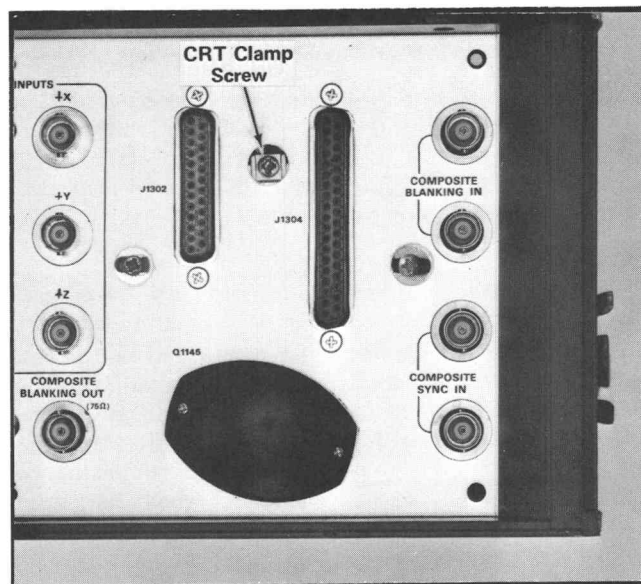

Fig. 4-4. Location of CRT clamp and positioning screws.
6. Loosen the clamp around the neck of the CRT by loosening the phillips head screw (see Fig. 4-4). Do not completely remove the screw.
Tighten the CRT base clamp screw (see Fig. 4-4).
Loosen the two side screws on the clamp assembly (Fig. 4-4). Align the CRT faceplate squarely with the front of the instrument. Tighten the two side screws.
After electrical connections have been made, ensure that the collimation bands are making contact by checking the performance of the instrument. It may be necessary to re-align the CRT with the graticule. Loosen the two side screws on the base clamp (Fig. 4-4). Rotate the CRT the necessary amount and re-tighten the screws.